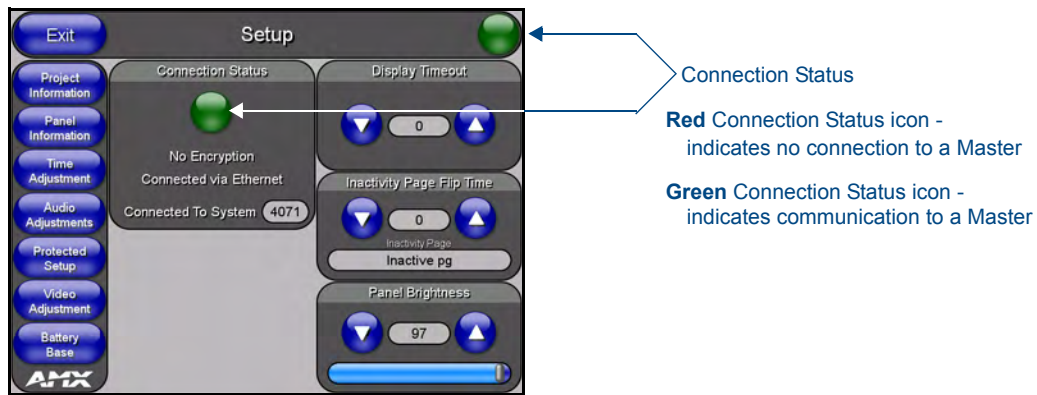

FIG. 40 Setup page
1. Press the grey Front Setup Access button for **3 seconds** to open the Setup page (FIG. 40).